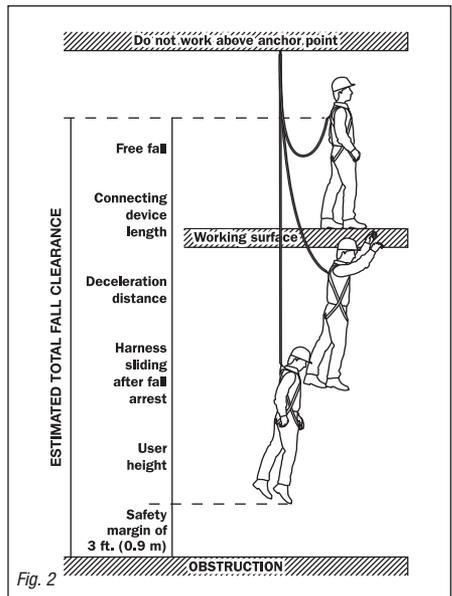

Fig. 2
3.2.1 There must be sufficient clearance beneath the working area or potential fall path to arrest the fall prior to striking any obstruction or level below. Be aware that shock absorbers may elongate up to 5.7 ft. (1.75 m). Take into consideration all components of a fall arrest system. Use of additional products may affect the clearance distance. Ensure to incorporate a deceleration distances as per *Figure 2* in the calculation of the estimated total fall distance.